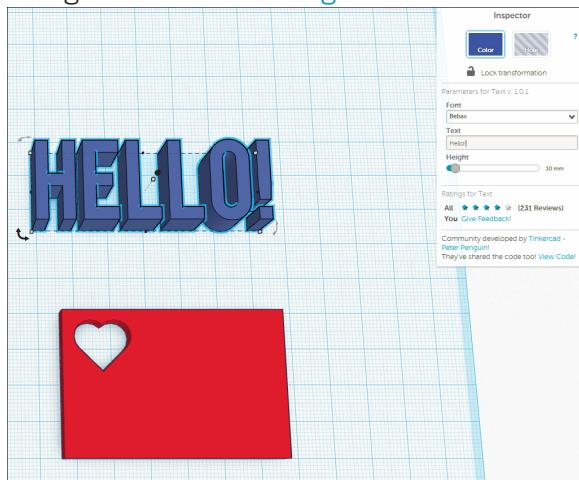

Figure 9-21. Text changed to “Hello!”
3. Use the Inspector tool in the top right to change the “Text” to something else as shown in Figure 9-21.